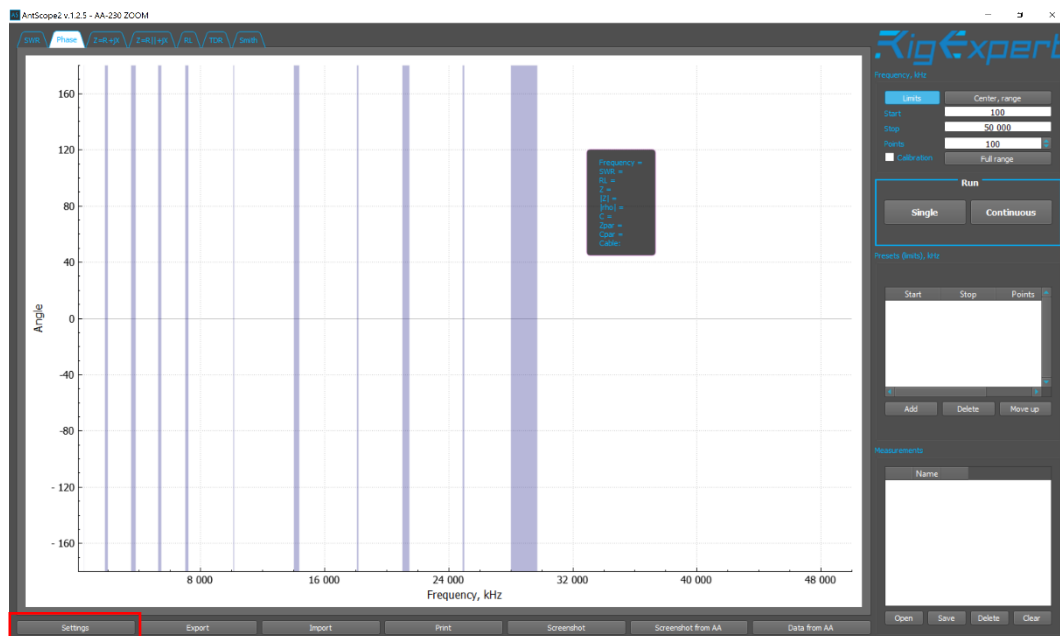

Figure 11-57: AntScope main screen > Settings
6. On the bottom navigation bar of the AntScope main screen, click Settings as shown in Figure 11-57.